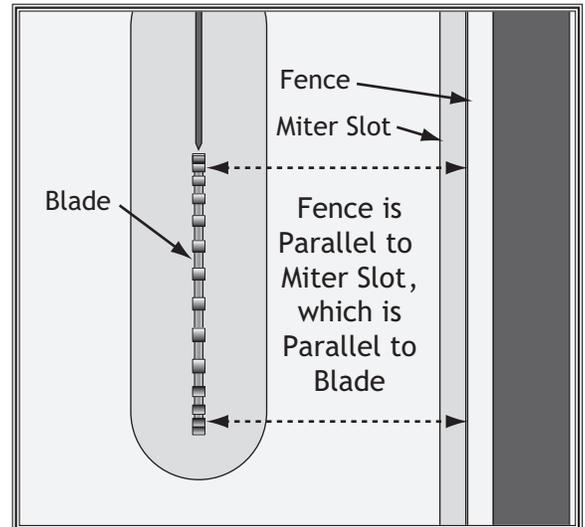

Figure 30. Checking fence parallelism with blade.
20. Slide fence up against right hand edge of miter slot, and lock it in place. Examine how fence lines up with miter slot (see **Figure 30**).